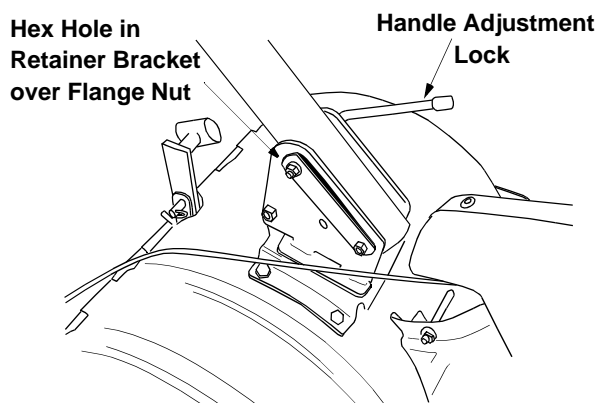

Figure 6
4. Place the hex opening of the hex nut retainer bracket over the flange nut securing the handle adjustment lock and install the lock nut on the lower shoulder bolt. See Figure 6.